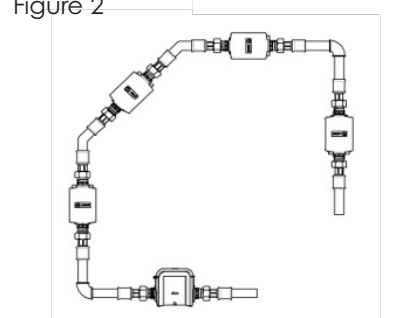

Figure 3
3. The meter may be installed in any orientation. (Figure 3) There are no straight pipe requirements for the Sonata.